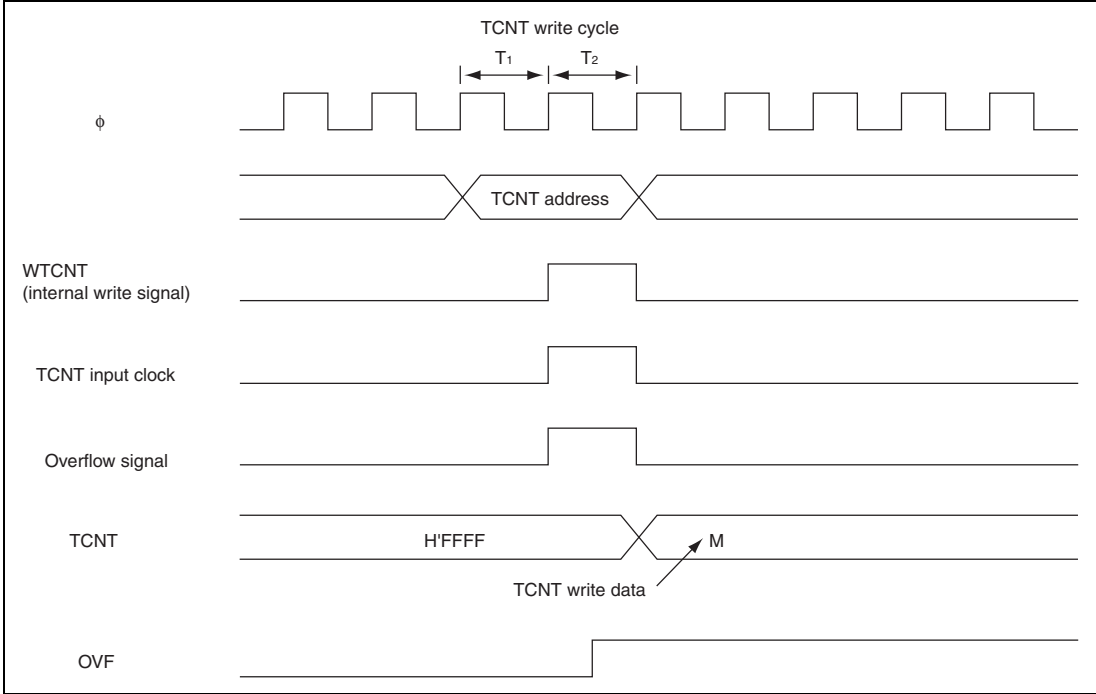

Figure 13.55 Contention between TCNT Write and Overflow
- 4. Contention between TCNT Write and Overflow/Underflow: If overflow/underflow occurs in the T_2 state of a TCNT write cycle, TCNT write has priority without an increment operation. At this time, the OVF flag is set to 1. Figure 13.55 shows the timing in this case.